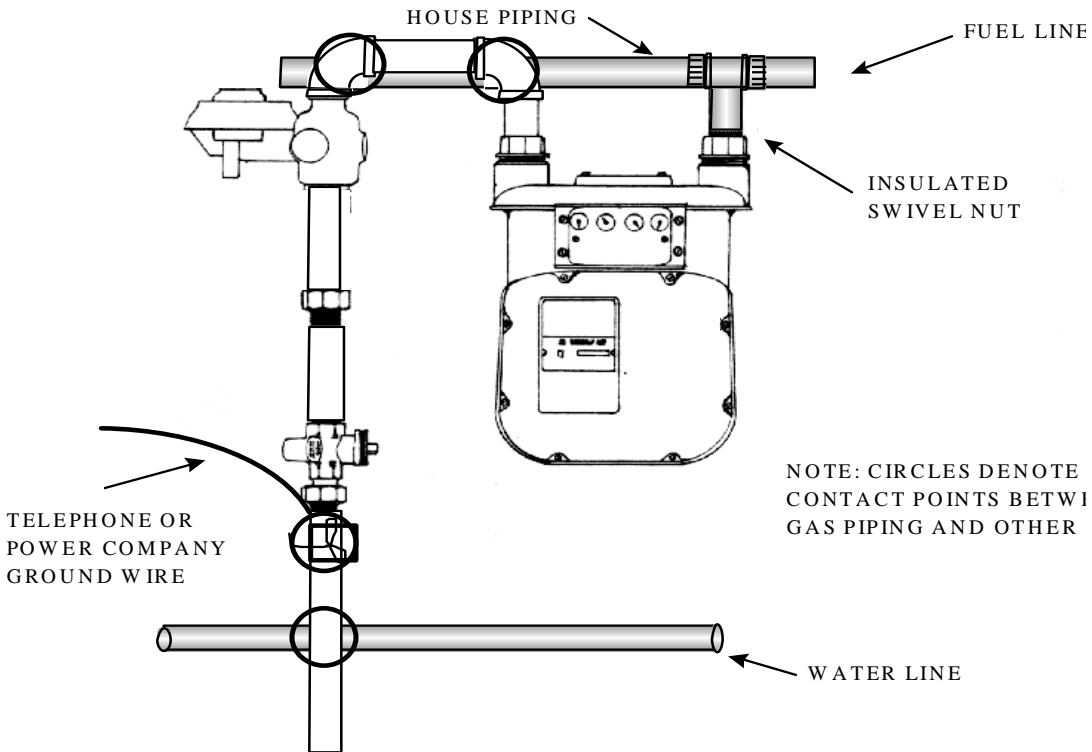

Figure VIII-8 Typical Meter Installation Accidental Contacts
Pipelines must be electrically isolated from other underground metallic structures (unless electrically interconnected and cathodically protected as a single unit). For illustrations of where meter sets are commonly electrically insulated, see Figures VIII-8, VIII-13 and VIII-14 in this chapter.
**Short or corrosion fault** - An accidental or incidental contact between a cathodically protected section of a piping system and other metal structures (water pipes, buried tanks or unprotected section of a gas piping system.) (See Figure VIII-8.)